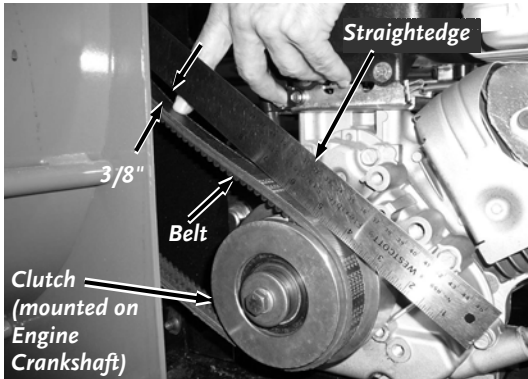

Figure 32
- 6. Place a Straightedge on the Belt (over the Clutch and Sheave) and push down firmly on the Belt to measure the deflection from the Straightedge to the Belt with a tape measure (**Figure 32**).